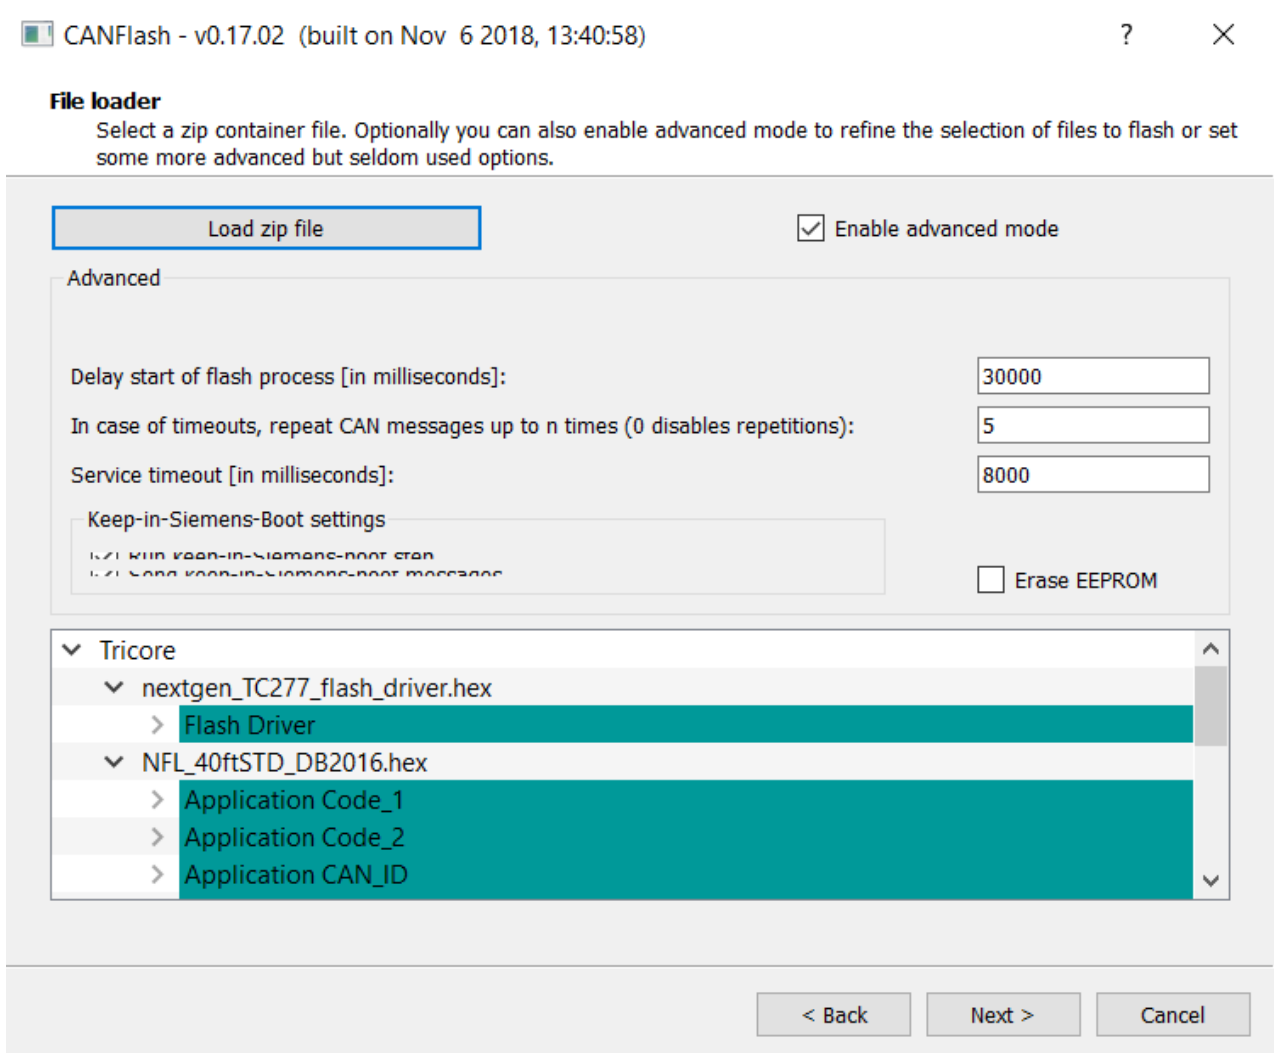

Figure 29: Advanced settings for CANFlash
82. Click the **Enable advanced mode** button. Change the **Delay start of flash process** box to 30000. Change the **repeat CAN messages** box to 5 (see figure 29). Click **Next** when complete.